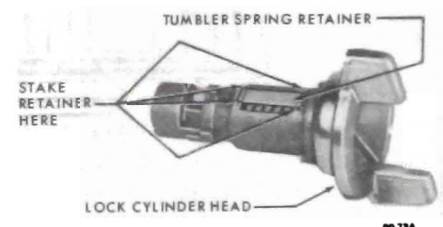

Figure 00-10 - Installing Spring Retainer
3. Reverse the lock cylinder so that the head of the cylinder is now toward you. Insert the spring retainer so that the two end prongs slide into the slots at either end of the cylinder. Press the retainer down. See Figure 00-10.